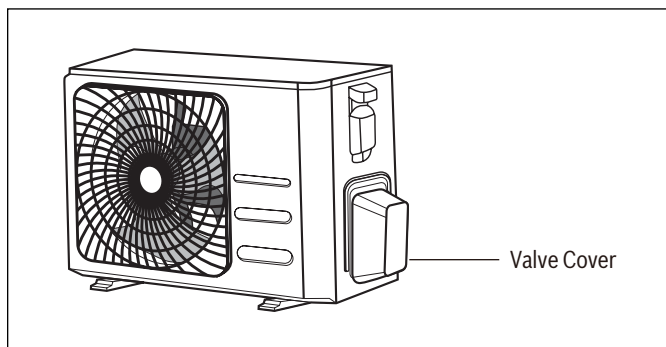

Figure 39
1. Unscrew and remove the cover on the side of the outdoor unit. See Figure 39.